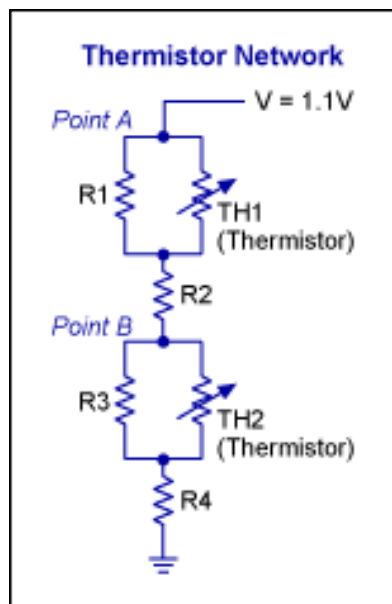
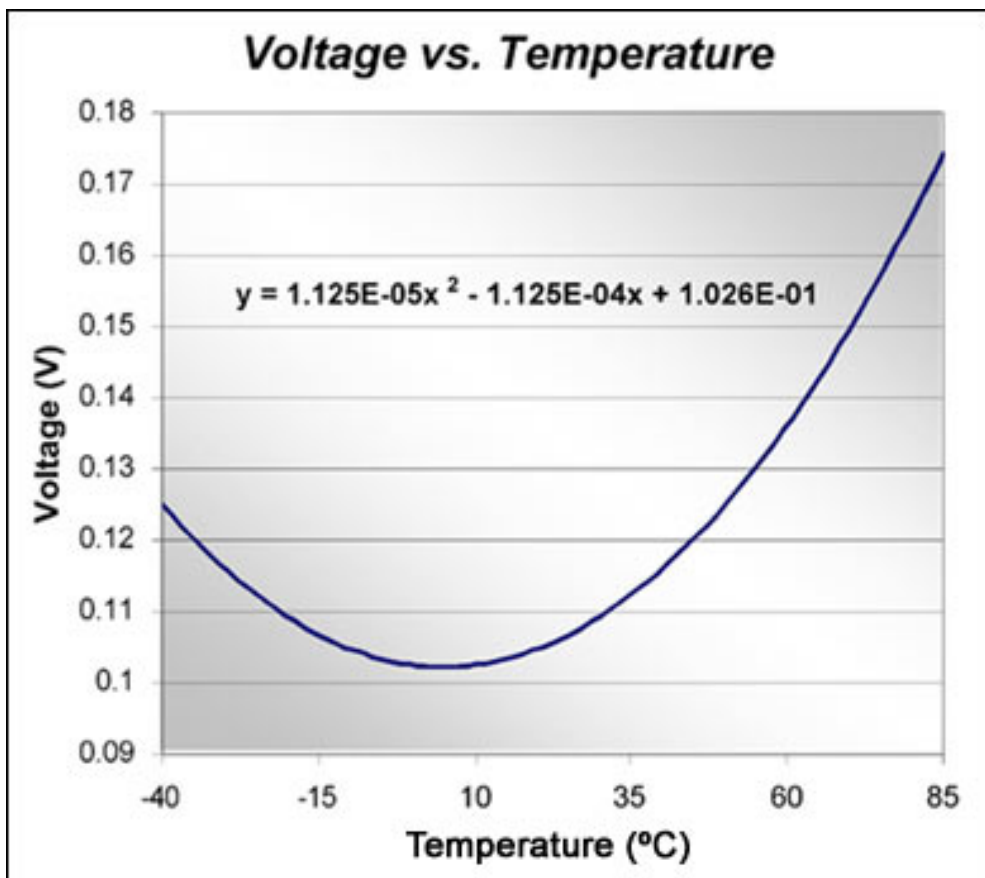
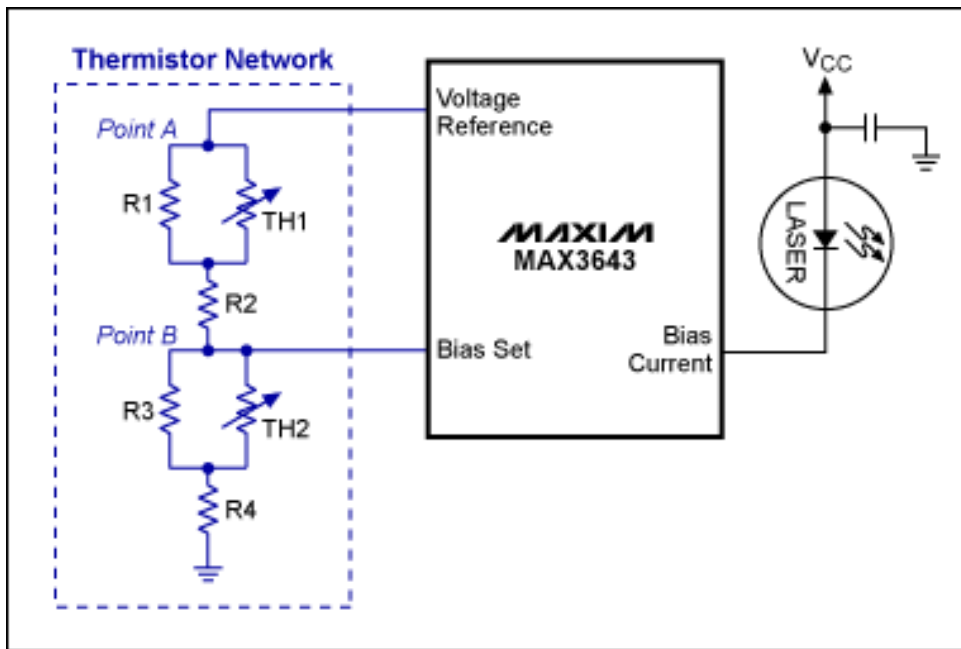

Figure 1. Thermistor network.
Figure 2. Voltage vs. temperature curve.
Figure 3. Thermistor network with the MAX3643 burst-mode laser driver.
Question: Given the circuit topology in **Figure 1**, find the resistor and NTC thermistor values that generate the Voltage vs. Temperature curve shown in **Figure 2**. (Note: Only standard values may be used.)
While this question may not appear in a textbook, it is a common practical problem that is encountered when trying to apply temperature compensation to an active device using a thermistor network. Some of us may be able to look at the circuit in Figure 1 and determine the solution by using a scratch pad and numerous equations. The rest of us would probably just enter the values into a simulator or spreadsheet and slowly try to adjust the values until we were able to match the curves as best as possible.
The words genetics and circuits rarely find themselves in the same context but, as will be shown, the genetic process can be applied to solve component values in circuits such as that shown in Figure 1. This article discusses applications of thermistors for temperature compensation and gives a brief description of the Genetic Algorithm. An example of the algorithm being used to quickly solve the basic question above will then be illustrated.
Figure 2 is an example of the compensation needed for a laser diode used in a fiber-optic communication link application. To maintain the quality of the communication link, the bias current to the laser diode must be adjusted as temperature changes. The temperature-compensated bias current can be applied to the laser by using the circuit shown in **Figure 3**, but the optimal values must be determined to match the desired voltage vs. temperature (Figure 2). Using the Genetic Algorithm, a near-ideal solution can be found in a matter of seconds.
The Genetic Algorithm is based on a random process, so the time needed to converge on an absolute optimal solution will be random. The average convergence time will increase as the number of variables in each population element increases. Determining and calculating the performance criteria for a given application can also be difficult for some applications. Simply put, it is sometimes difficult to write equations that express what the optimal solution should look like. For simple passive circuits such as the thermistor circuit shown in Figure 1, the performance criteria can be well defined and easily written. Given the number of variables, the solution can also be found in a reasonable amount of time. The Genetic Algorithm is, therefore, well suited to solve these types of circuits.
Using a free visual basic compiler,2 a simple routine was written to solve the thermistor network values (Figure 1) to match the desired response (Figure 2). The source code for this example and the executable file can be downloaded.
2. Generate a random population of elements. (Population should be composed of 100 elements for this example.) Each population element is an array that contains an entry for each component in the circuit (Figure 1).
Using Figure 1 as a reference, this solution is composed of the following component values: